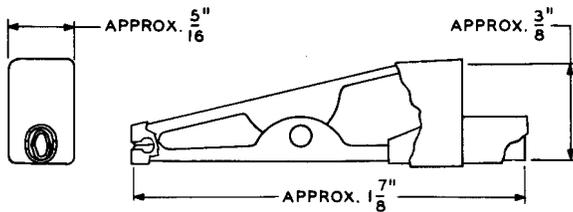

Fig. 15—KS-16336, L1 and L2, Test Clip
**2.25 KS-16336, L1 and L2:** The KS-16336, L1 and L2, test clips (Fig. 15) are used on the W20F cord for making connections to distributing frame terminal strips. Clips are to be soldered to cord conductors.